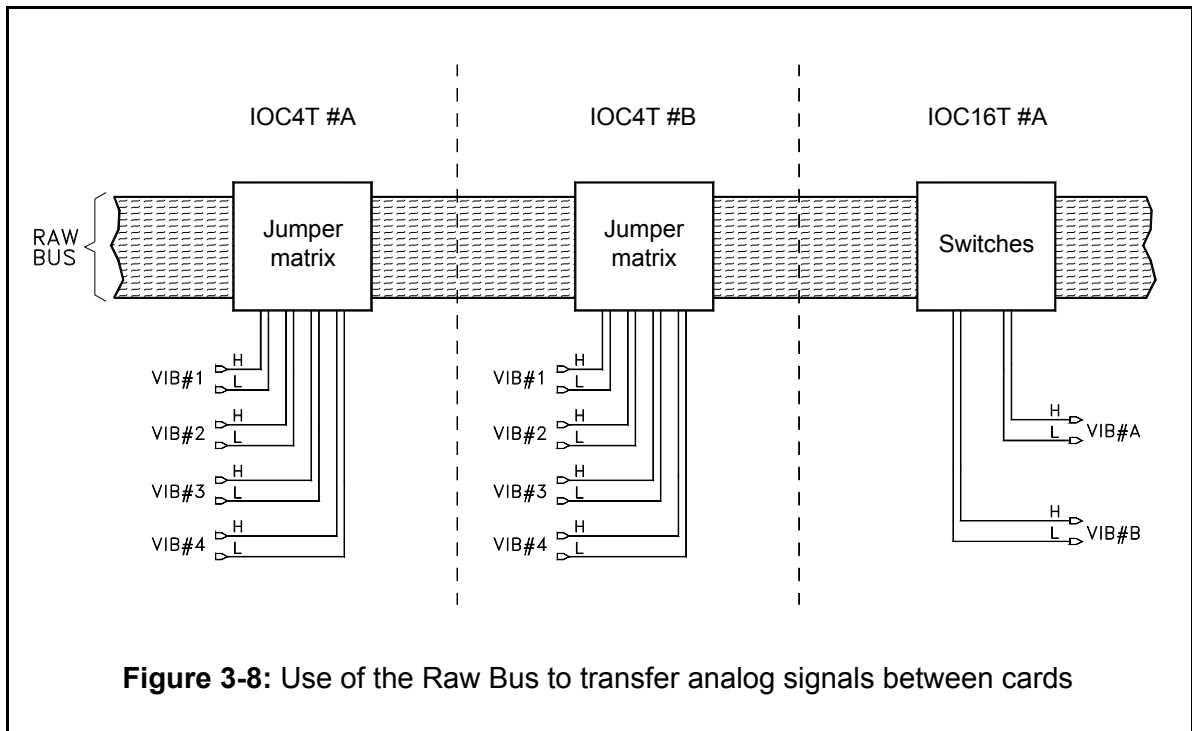

Figure 3-8: Use of the Raw Bus to transfer analog signals between cards
- Share raw analog signals input on channels 1 to 4 of an IOC4T card with other cards in the rack (for example, to CMC16, XMC16 or XMV16 cards installed in a rack featuring both MPS and CMS hardware). An example of this is shown in Figure 3-8.
Signals are placed on the Raw Bus by setting jumpers on an IOC4T (see Figure 3-8). If the signals are required by a CMC16 card, the appropriate switches must also be set on the corresponding IOC16T card.